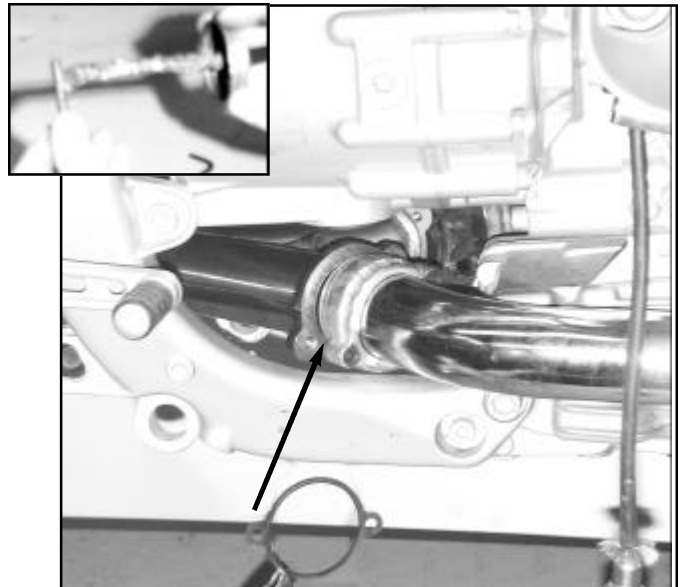

Figure 12
13. Put anti-seize compound on the screws that connect the head pipes to the collector. Figure 12.
14. Locate the **new** gaskets between the head pipe and collector and start the screws, **do not tighten yet**. Figure 12.